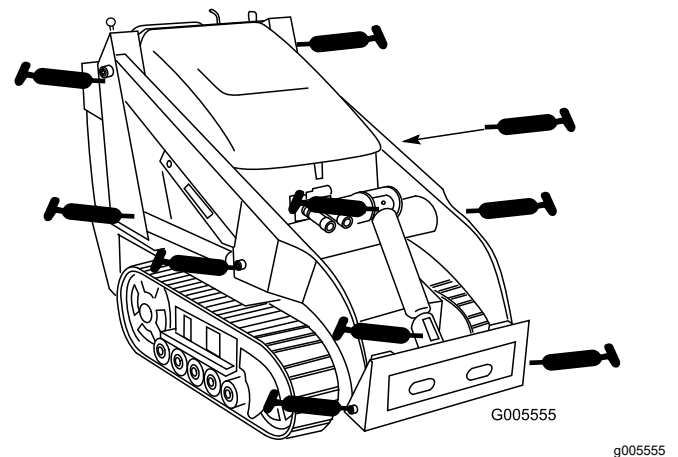
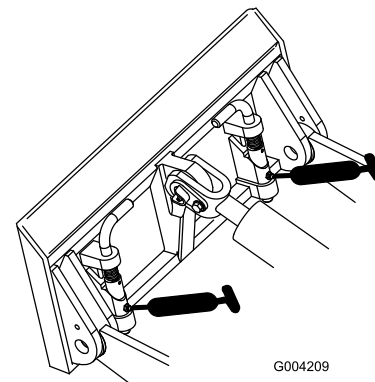

Figure 32
Figure 33
4. Connect a grease gun to each fitting (Figure 32 and Figure 33).